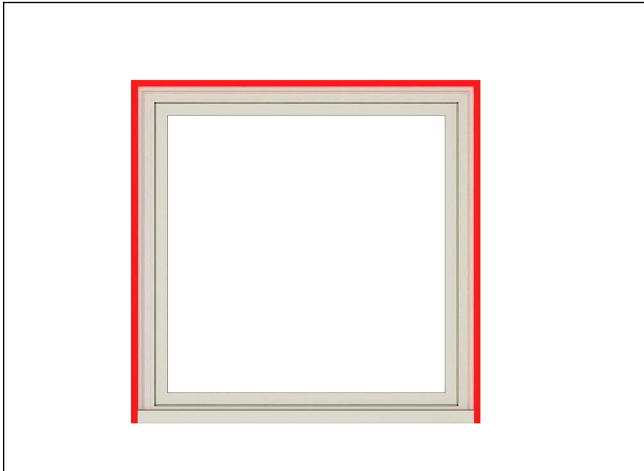

Figure 27
7. Seal casing with clear grade NS class 25 sealant at each jamb and the head jamb to siding or weather resistant barrier. (If required, backer rod may be used.) See *figure 27*.